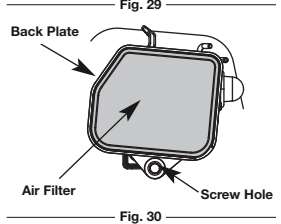

Fig. 30
4. Replace the air filter into the base plate (Fig. 30).